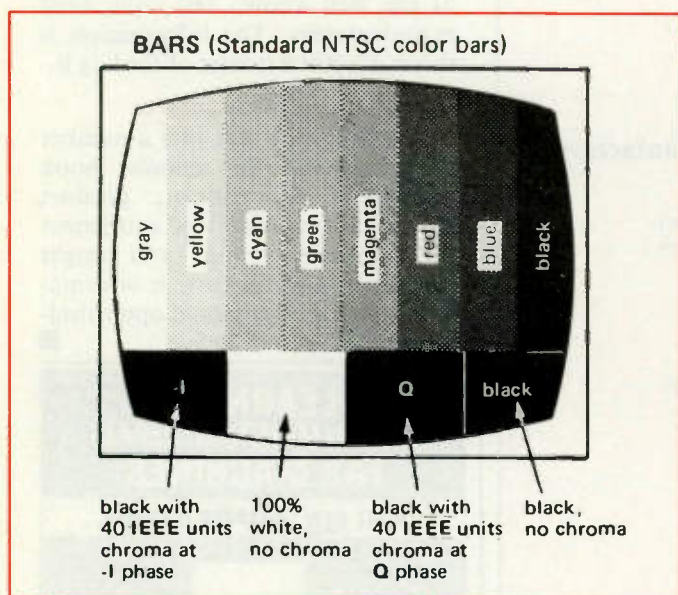

Figure 1. The NTSC color bar pattern is a basic test instrument for testing, troubleshooting and adjusting video equipment.
This is the heart of the video bench. The NTSC color bar pattern (Figure 1) is necessary for testing, troubleshooting and adjusting video equipment. Usually, "NTSC" is specified by the manufacturer in service manuals. The NTSC color bar signal produces standard EIA colors at the prescribed luminance level (brightness), chroma phase angle (hue, the element that sets apart colors), and chroma amplitude (saturation), as set forth by the NTSC. Broadcasting studios and transmitting equipment use this test signal.
- **IWQ Pattern** (Figure 1)—The IWQ pattern has 7.5% black level and 100% white level. These are level references. They are used, for example, to adjust FM deviation and black and white clip level in VCRs, and to adjust or check luminance and chroma ratios.